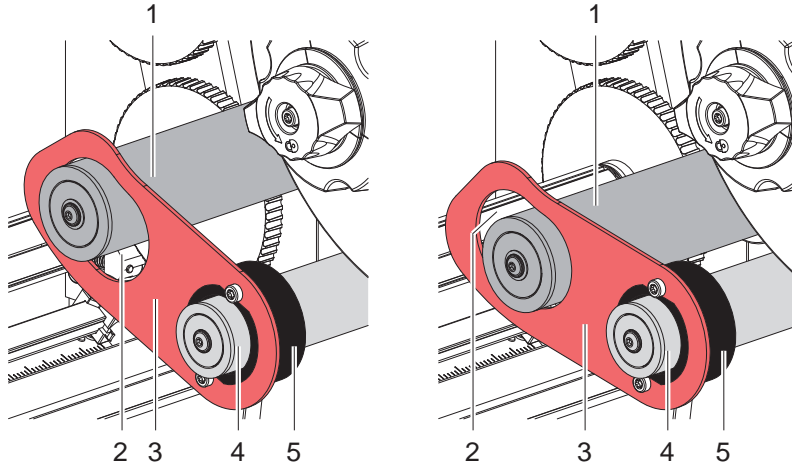

Figure 14 Checking the switching point of the brake
1. Press down the swing arm with the guide roller (1).
2. Push the collar (5) of the gauge (3) onto the guide roller (4) and insert the guide roller (1) into the slot hole (2).
3. Release the swing arm. The guide roller (1) moves to the upper end of the slot hole (2) (Figure 14 left side).
4. Press down the swing arm so that the guide roller touches the lower end of the slot hole (2) (Figure 14 right side).